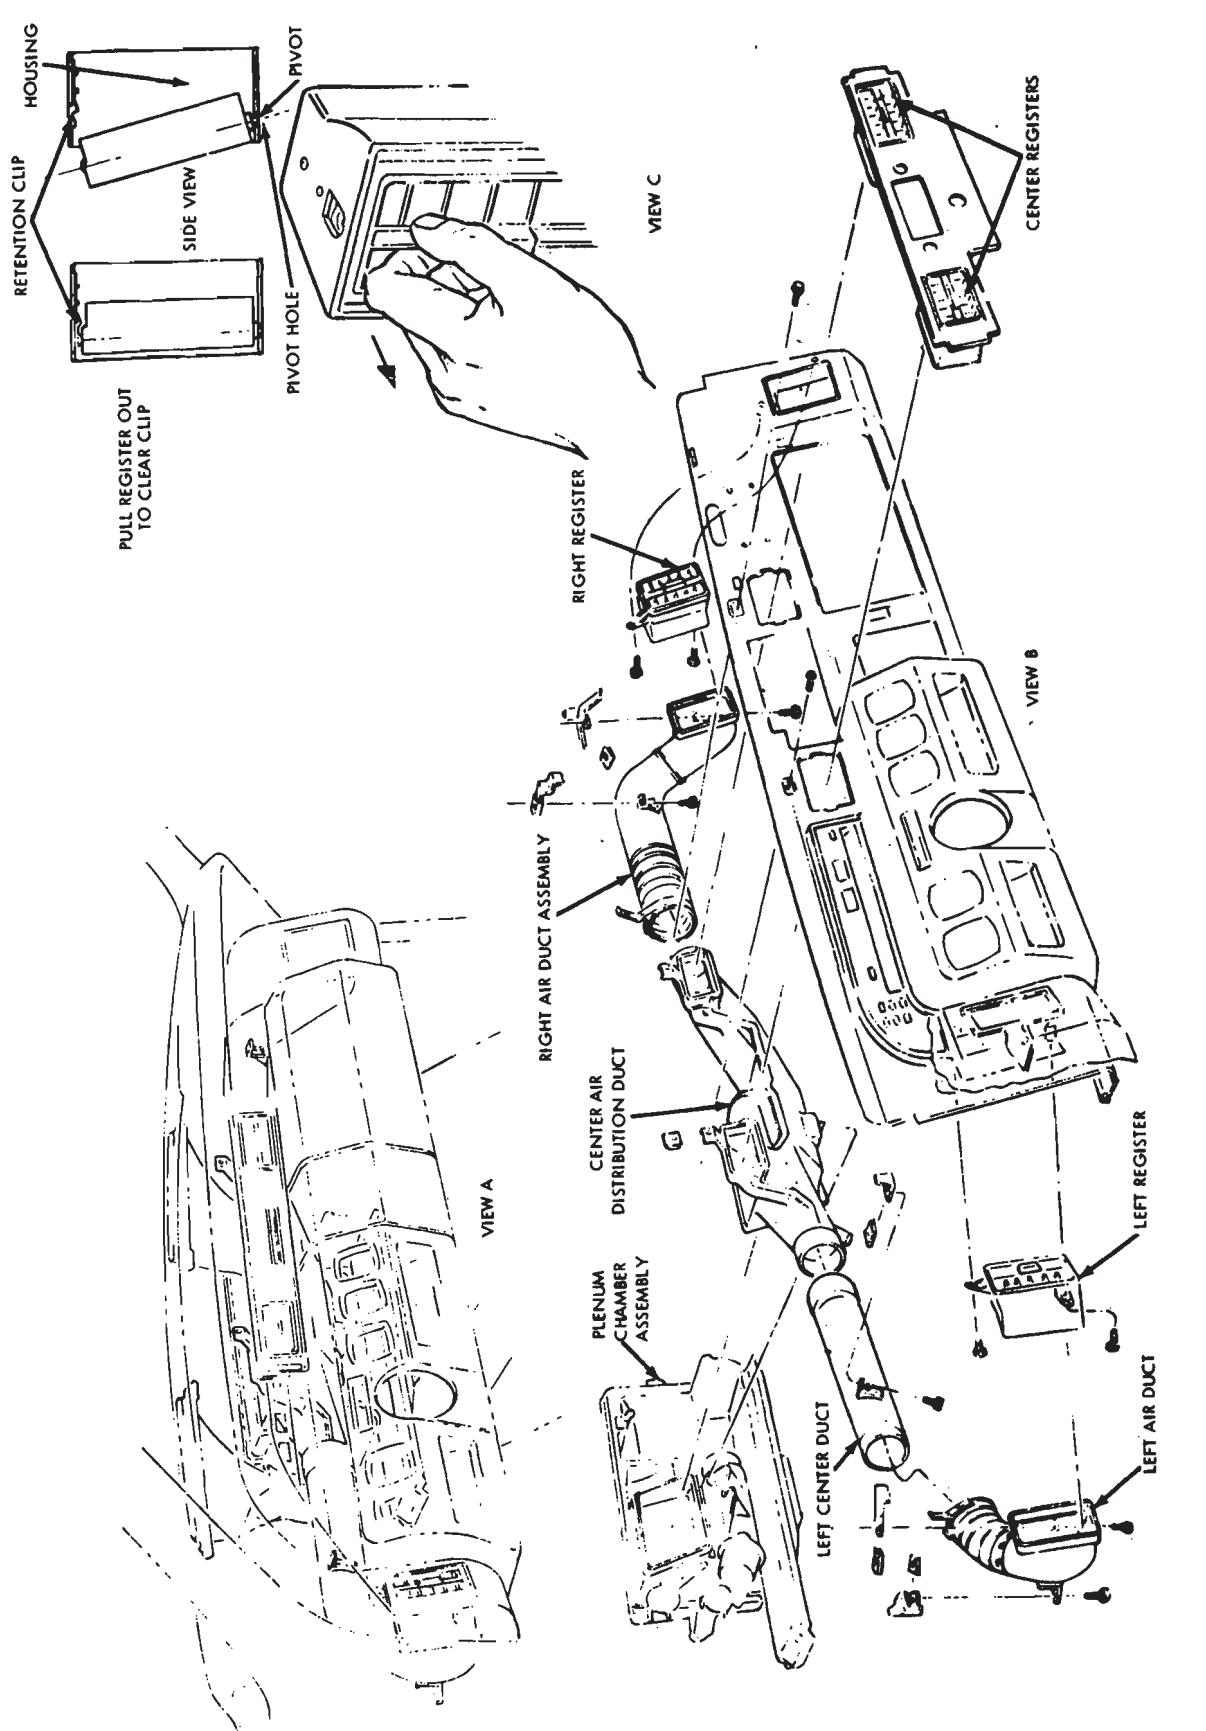

FIG. 52—Register Air Duct Removal—Lincoln Continental
1. Remove one left center duct-to-instrument panel mounting screw (Fig. 52).
1. Move the center air distribution duct assembly up and to the left under the instrument panel, and rearward onto the center registers (Fig. 52).
5. Install the two center air distribution-to-instrument panel mounting screws (Fig. 52).
Although the two outboard registers in the instrument panel are vertical and the two center registers are horizontal, they are all serviced in the same manner. Refer to Fig. 52, View
1. Move the register slide bar toward the closed position (Fig. 52).